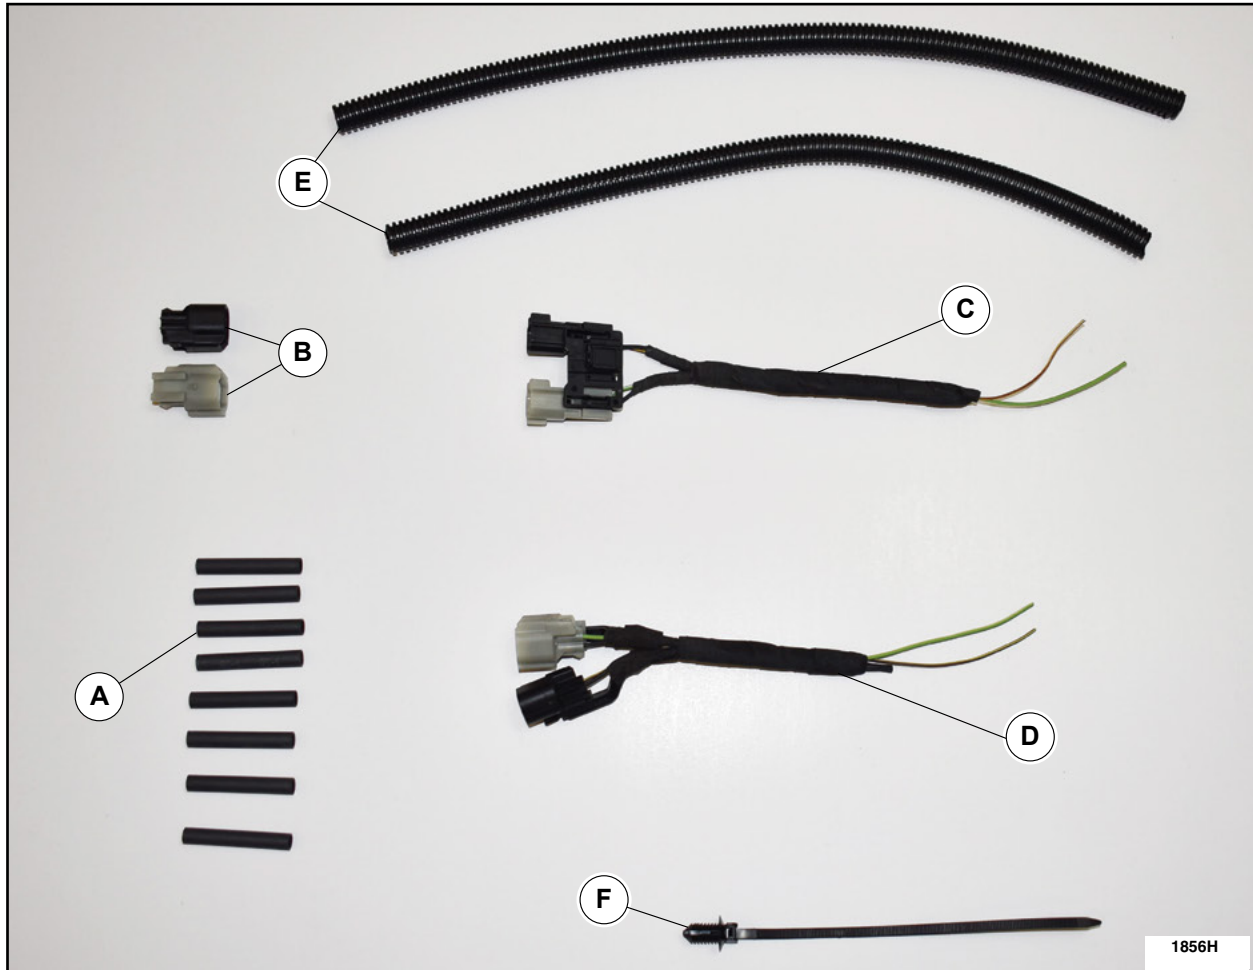

FIGURE 54
**NOTE:** The parts being installed in this procedure are not labeled. Refer to Figure 54 for component identification.